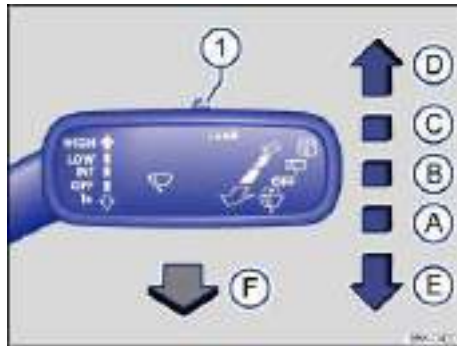

Fig. 80 Operating the front windshield wipers.
- Press the windshield wiper lever down briefly ⇒ fig. 80 (E) when the ignition is off.
Carefully fold the wiper arms back onto the windshield before driving! Switch the ignition on and press the windshield wiper lever down briefly ⇒ fig. 80 (E). The wiper arms move back to their original position.